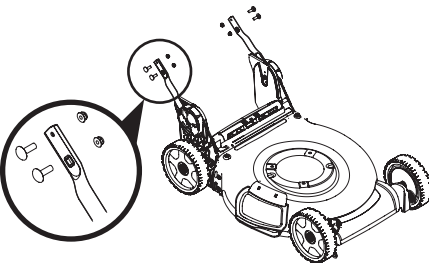

Figure 10
1. Remove the four carriage bolts and nuts from the lower handles (Figure 10).